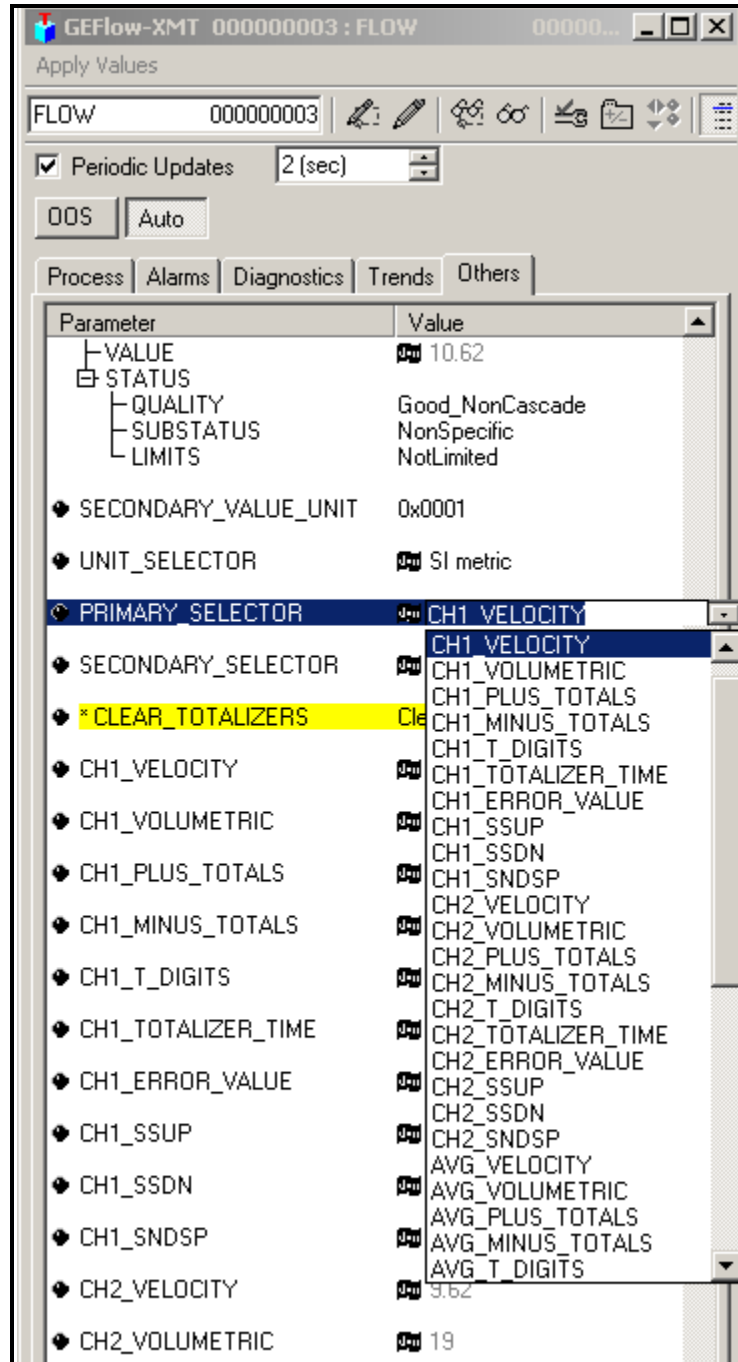

Figure D-2: Primary Selector Drop Down List
2. Select the **Others** tab and open the drop down list for the PRIMARY_SELECTOR and SECONDARY_SELECTOR (see Figure D-2 on page -3).
3. Choose the unit from the list (see Figure D-2 on page -3).